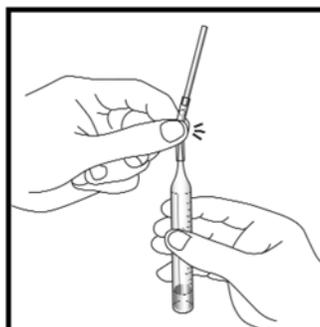

Figure 3
3. Gently snap the tip of the ezSample Snap Vial (ampoule) at the black snap ring (Figure 3).